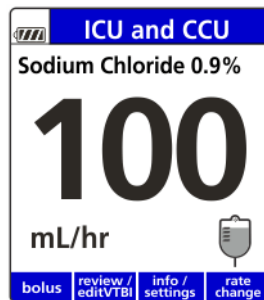

Figure 80. Infusion Running Screen.
1. At the Infusion Running screen, press the **rate change** soft key. See Figure 80.